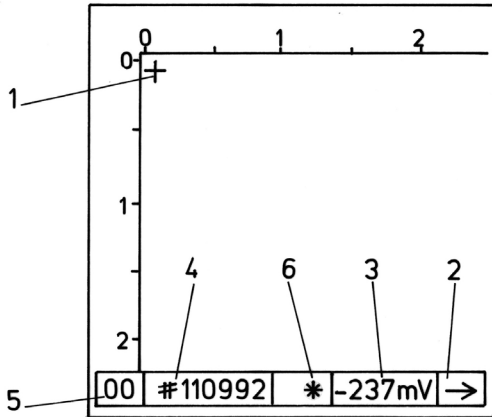

Fig 4.1 Page with a grid of 150/150 mm.
The cursor begins in the top left hand corner of the XY-Grid (Fig 4.1). This indicates where the first measurement will be stored, so it is important to take the first measurement in the corresponding point marked on the concrete.
- When you come to the end of a row, you must press the \downarrow button to indicate this and the cursor will jump down to the next row. The direction arrow (Field 2 in fig 4.1) will automatically change direction to \leftarrow .
- Now proceed to move the wheel electrode in the Y-direction (down) as indicated by the direction arrow (Field 2 in fig 4.1). The measurement readings will be acquired automatically in the pre-selected row spacing.
- During such breaks, the measured value is shown in the status row. (Field 3 in Fig 4.1)